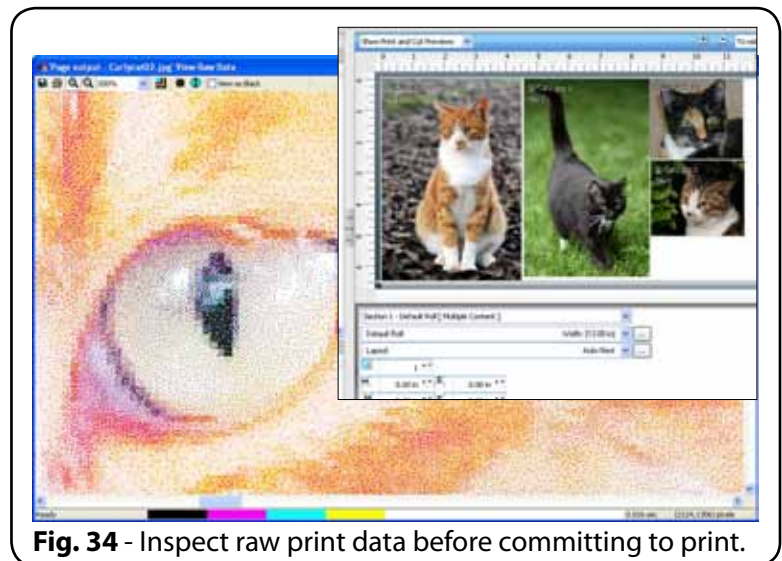

Fig. 34 - Inspect raw print data before committing to print.
- **Preview Raw Print Data** – Inspect print data on-screen prior to printing (Fig. 34), so that print data can be confirmed on a per color channel basis.